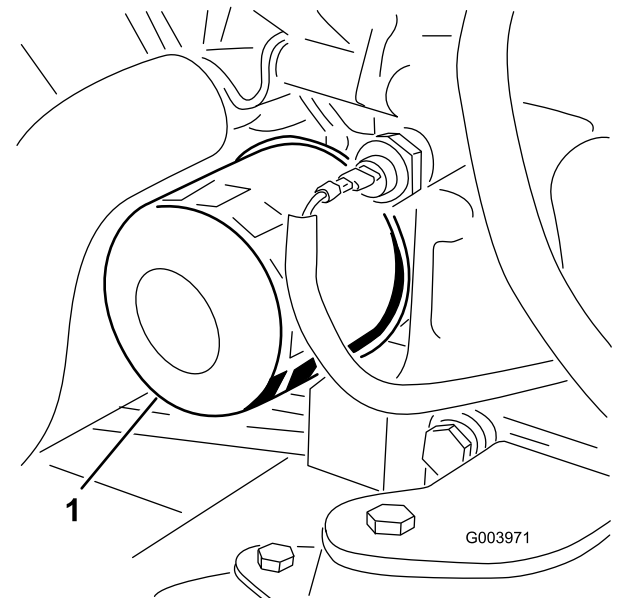

Figure 49
- Remove the oil filter (Figure 49).